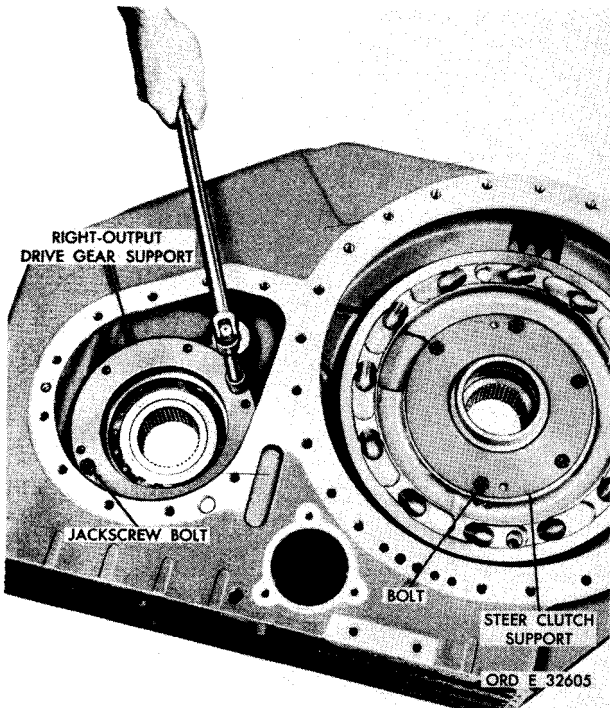

Figure 186. Removing output drive gear support
am. Position the transmission rear housing on its left side (fig. 186).
an. Using a 9/16-inch wrench, remove five self-locking bolts retaining the output drive gear bearing support. Use two of the bolts as jackscrews to loosen the support (fig. 186). Remove the support.
ao. Using a 9/16-inch wrench, remove five self-locking bolts that retain the right steer clutch support (fig. 186). Use two of the bolts as jackscrews to loosen the support. Remove the support.
l. Install the right-steer clutch support and secure with five 3/8-16 self-locking bolts (fig. 186). Torque the bolts to 36-43 pound-feet.
m. Install the right-output drive gear support and secure with five 3/8-16 self-locking bolts (fig. 186). Torque the bolts to 36-43 pound-feet.